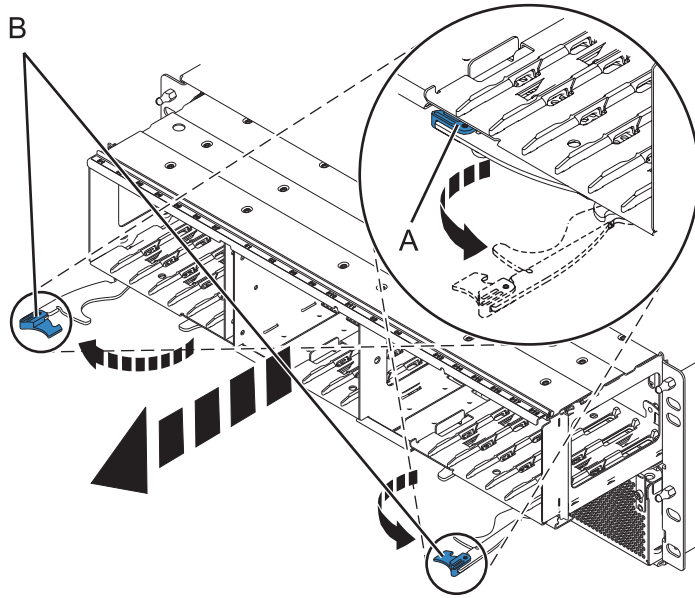
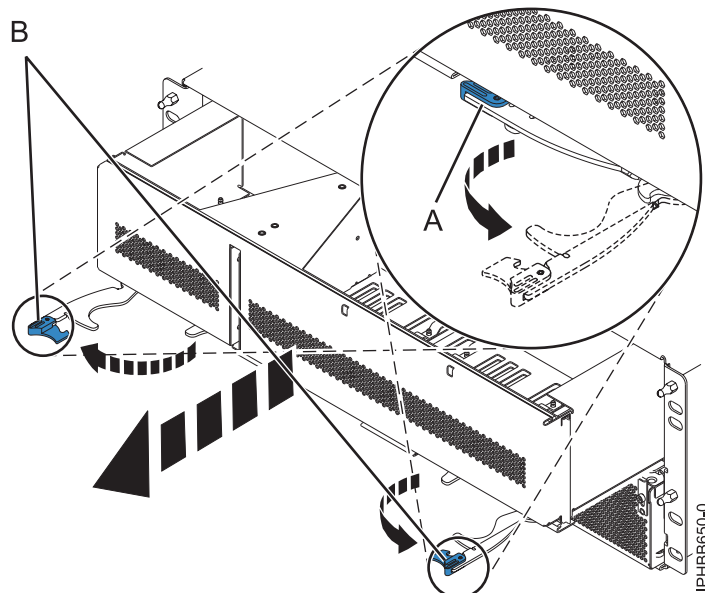

Figure 3. Removing the disk drive backplane from the enclosure
Figure 4. Removing the backplane filler from the enclosure
10. Remove the disk drive backplane from the 5802 expansion unit as shown in Figure 3 on page 6, or remove the backplane filler from the 5877 expansion unit as shown in Figure 4 on page 6.